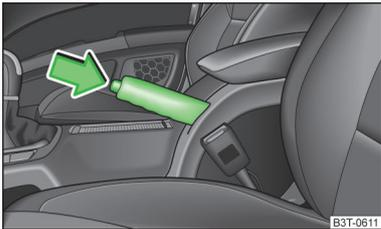

Fig. 137
- Pull the handbrake lever up slightly **and at the same time** push in the locking button » Fig. 137.